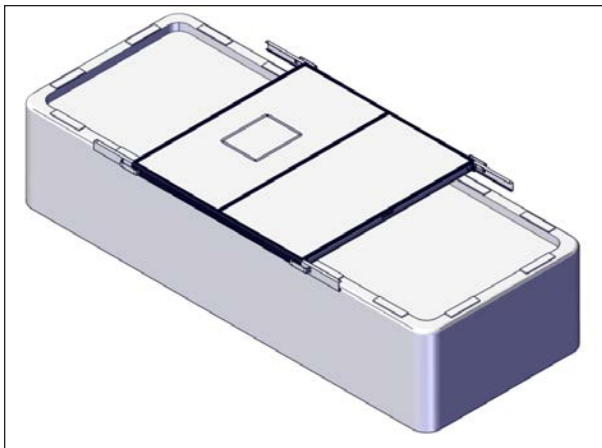

FIGURE 48: INSTALLATION OF THE COVER ON THE SPA
10. If it is not done yet, carefully position the assembled center section of the cover onto the middle of the spa. Try to align the cover as best as possible, see Figure 48.